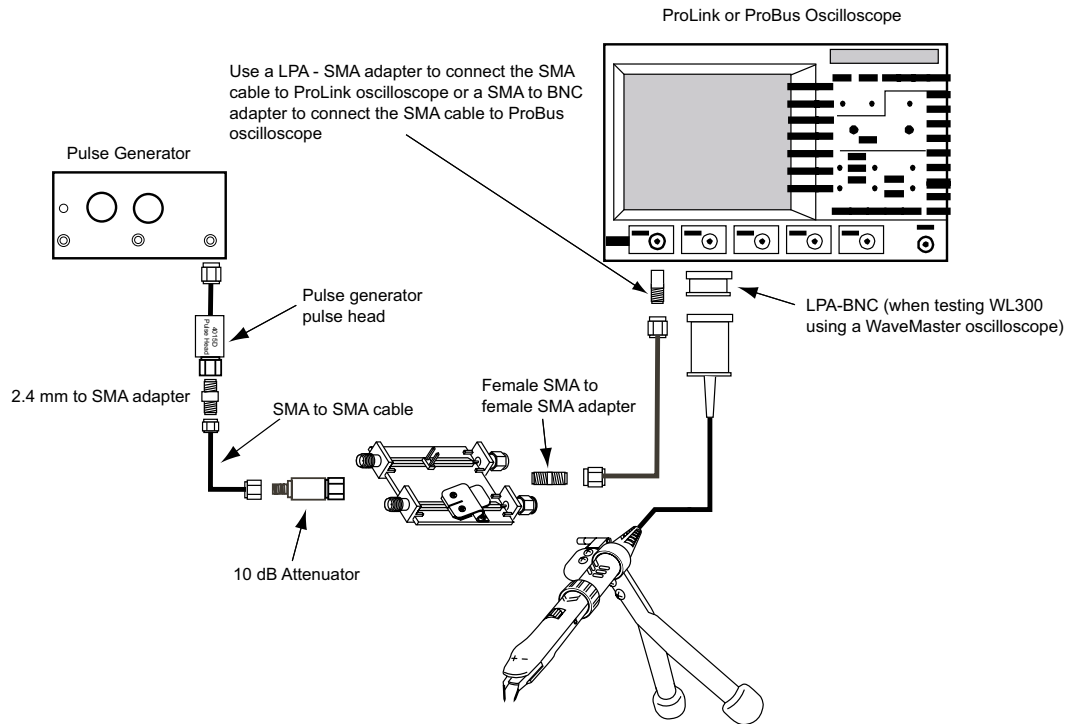

Figure 8-8. Measuring System Rise Time
- b. Connect the male side of the attenuator to one of the female sides of the Characterization Fixture. Figure 8-8.
- l. To measure the probe's rise time, disconnect the SMA cable from either the LPA to BNC adapter or the SMA to BNC adapter and connect it to the female SMA 50 Ω terminator. Figure 8-8.